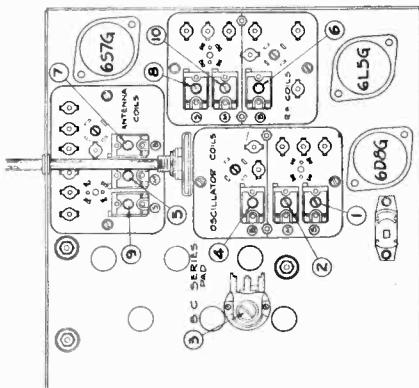

FIG. 3.—BOTTOM VIEW SHOWING TRIMMERS
- (a) Set external oscillator to 1720 K.C. and adjust broadcast oscillator trimmer to resonance. (Adjustment number 4; see bottom view of coil assembly, Fig. 3)
- (c) Re-set external oscillator to 600 K.C. and adjust broadcast series pad (adjustment number 3), to resonance. (Adjustment number 3; see bottom view of chassis, Fig. 3)
K.C. rocking is slowly made for approximately 1600 K.C. until maximum output is attained. This adjustment is located on the bottom of the chassis directly under the variable gang condenser. (See bottom view of chassis, Fig. 3).